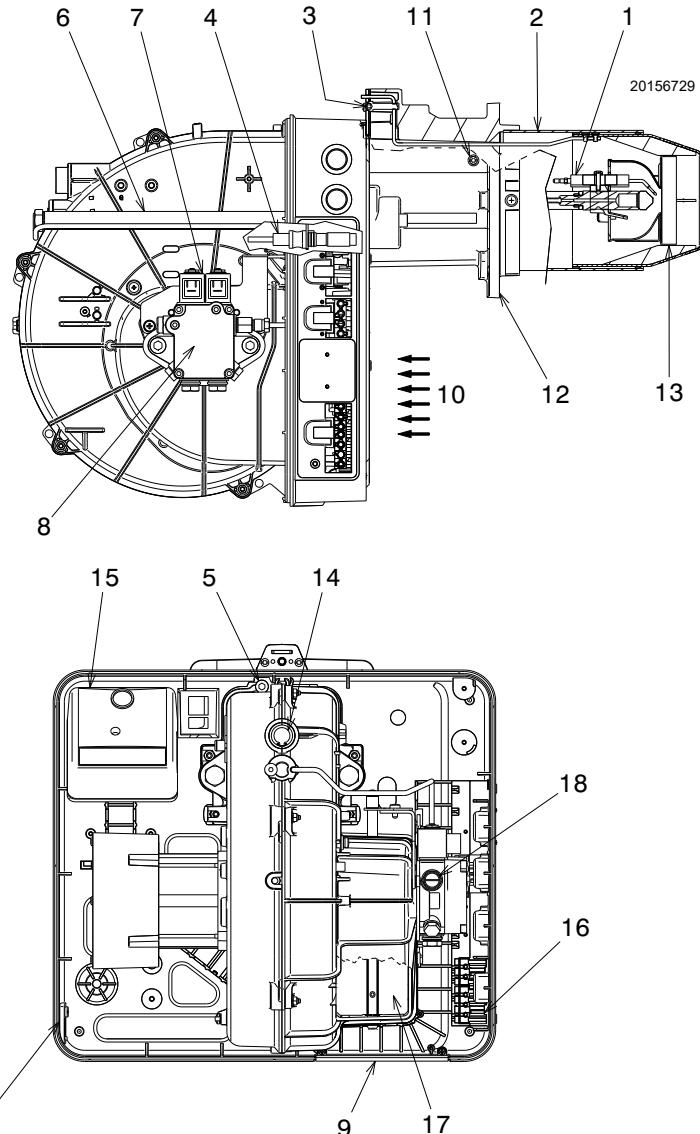

Fig. 5
**CONTROL BOX LOCKOUT:** if the control box push-button (red led) 17)(Fig. 5) lights up, it indicates that the burner is in lockout. To reset, hold the button down for between 1 and 3 seconds.